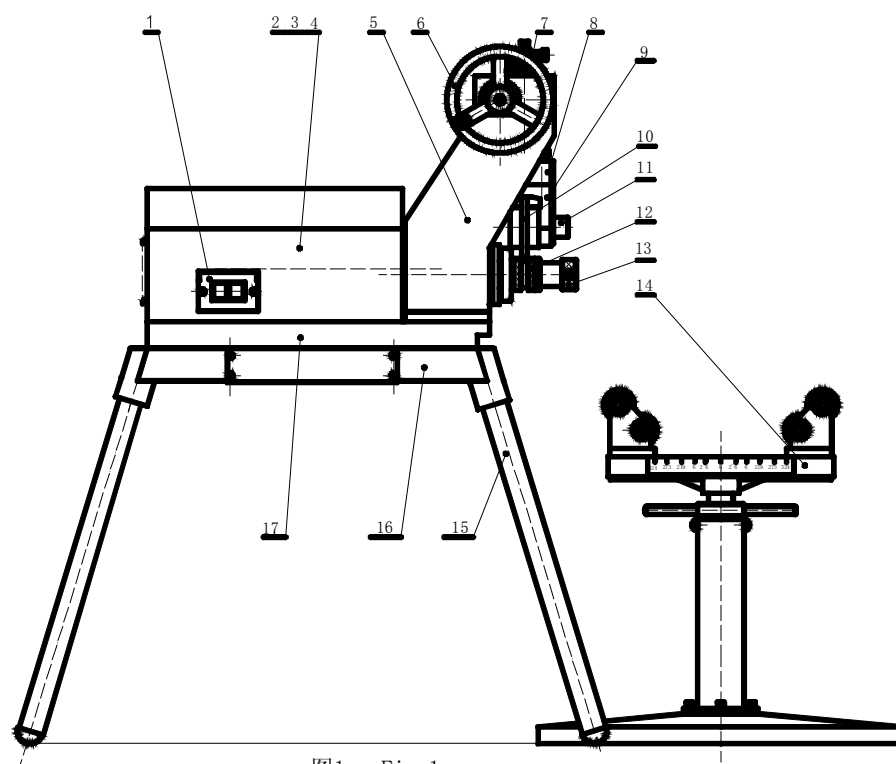

图1 Fig.1
#### 2.1 GC981- B 蜗轮蜗杆型滚槽机（图 1）
3.1 将四条脚架由下向上装入平台的四个孔中并紧固(图 1)，按图 1 所示将料架安装好。
Put the four stand legs into the four holes of the platform and fasten them, and install the pipe stand, as shown in Fig.1.